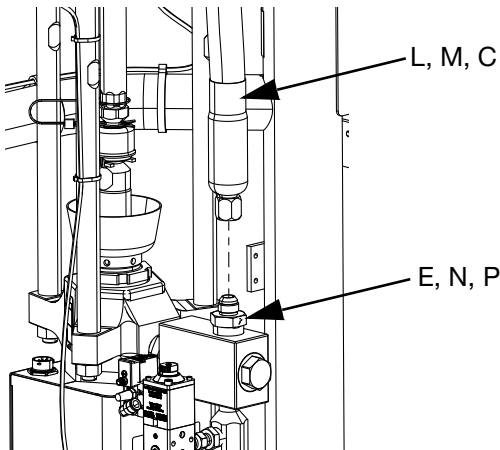

FIG. 23
4. If using a Single iQ Ram Supply System, connect Supply Hose 1 (C) to the Ram Supply System to Supply Hose 1 Fitting (E) as shown in FIG. 1 and FIG. 23.
- a. Connect Tandem Hose 1 (L) to the Ram Supply Unit 1 to Tandem Hose 1 Fitting (N) as shown in FIG. 2 and FIG. 23.
- b. Connect Tandem Hose 2 (M) to the Ram Supply Unit 2 to Tandem Hose 2 Fitting (P) as shown in FIG. 2 and FIG. 23.